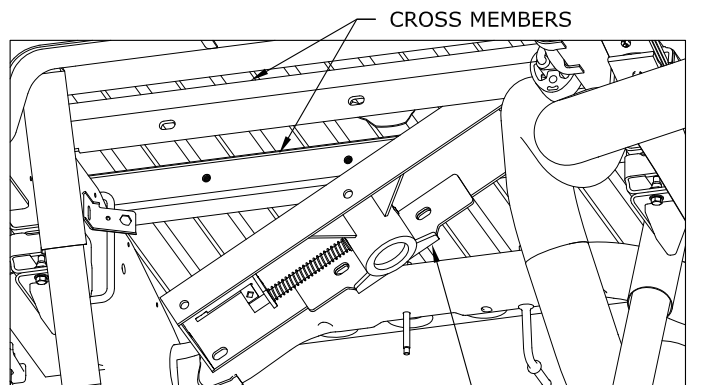
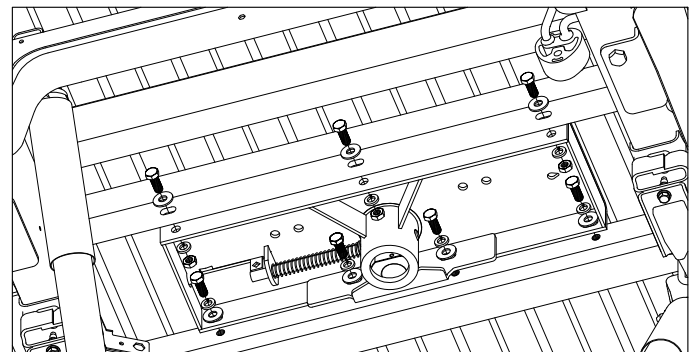

FIGURE B5: View under bed looking at area above axle.
FIGURE B6: View under bed of hardware assembly.
- 2. Install Center Section.** Install the center section with the latch pin on the driver's side. Raise the center section over the differential while sliding the center section over the exhaust and guiding the raised 4" circle on top of the center into the 4" hole in the truck bed floor, See figure B5. Move rear cross member forward against the center section. Place a 1/2" flat washer on a 1/2" X 1 1/2" hex cap screw. Insert the cap screw through the rear cross member and center section, securing it with a 1/2" lock washer, and a 1/2" finish nut. Thread a 1/2" X 1 1/2" hex cap screw with a 1/2" lock washer and a 1/2" flat washer into the front cross member from the inside of the center section, See figure B6 (Do not tighten hardware at this time.)